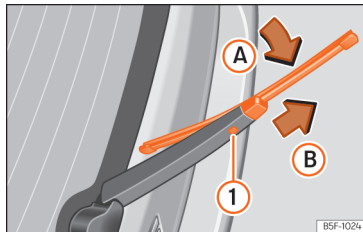

Fig. 154 Changing the rear wiper blade
- Rotate the blade lightly >>> **Fig. 154** (arrow **A**).
- Hold down the release button **①** while gently pulling the blade in the direction of arrow **B**.
- Insert a new blade of the **same length and type** in the rear wiper arm in the opposite direction to the arrow **B** until button **①** hooks into place.